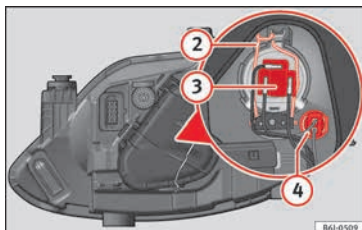

Fig. 95 Dipped beam/main beam and side light of the single headlight.
- Remove connector » **Fig. 95** ③ from the bulb.
- Unclip the retainer spring » **Fig. 95** ② pressing inwards to the right.
- Extract the bulb holder » **Fig. 95** ④ outwards.